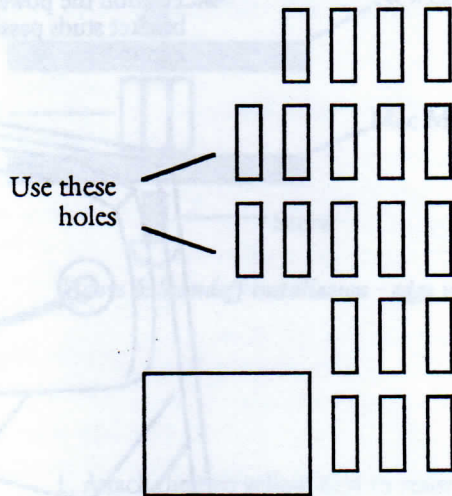

*Figure 10 : Power supply installation - edge view*
3. Put a flat washer, a lock washer and then a nut on each stud to secure the power supply. As shown in figure 10.